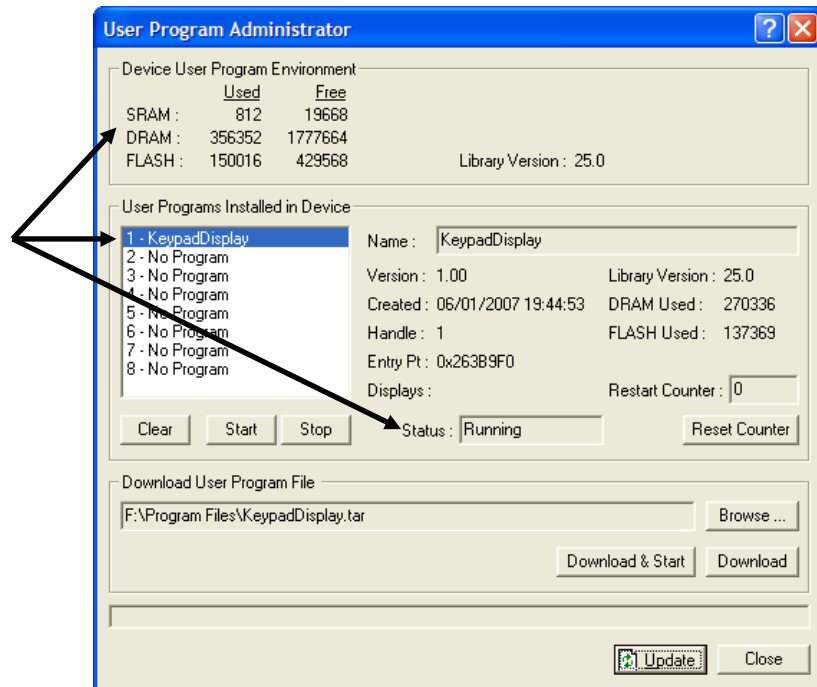

Figure 2-13. User Program Administrator
10. Click **OK**. The User Program Administrator screen displays (see Figure 2-13). Note that: